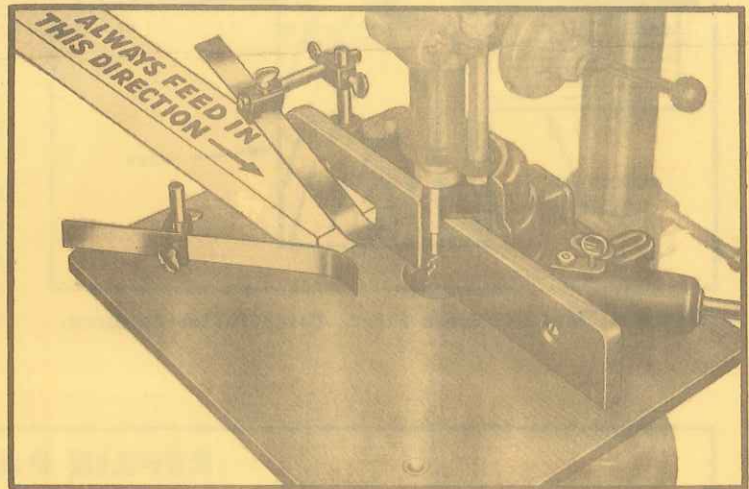

Figure 1 W80 Shaping Attachment
**SHAPING WITH THE FENCE** - With the drill press head in normal position, Figure 1, the work is fed from the left.
Adjust the table, or spindle, to cut the shaping form desired on the work. It may be necessary to remove one of the drill press feed handles - see Figure 1.